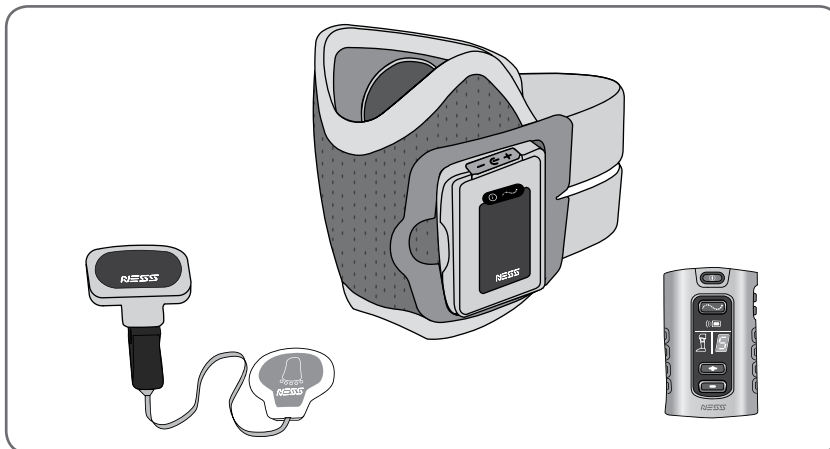

Figure 9-1: Registration setup.
2. Place the L300 FS Cuff with RF Stim Unit attached, the Intelli-Sense Gait Sensor, and the new Control Unit close together on a table but not touching. See Figure 9-1.